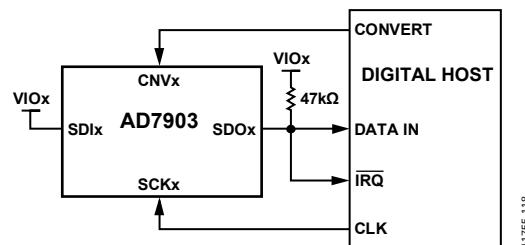
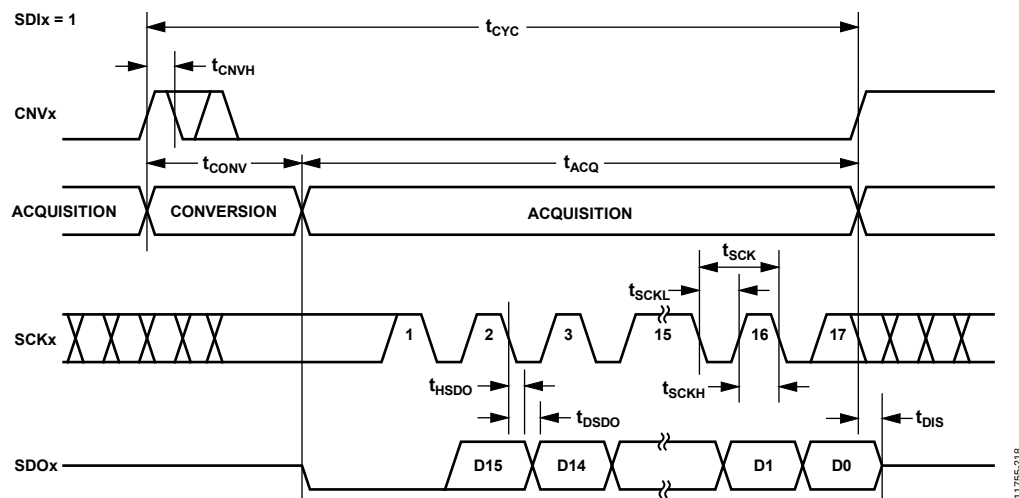
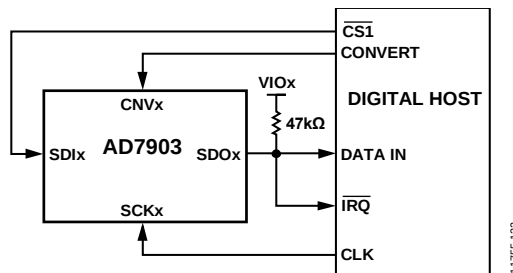
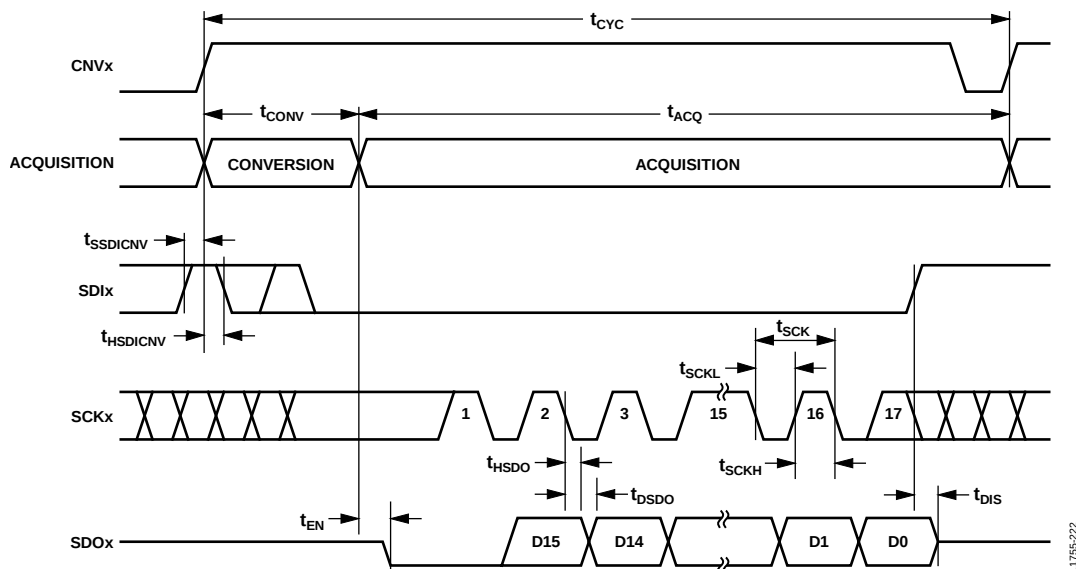

Figure 41. $\overline{CS}$ Mode, 3-Wire Interface with Busy Indicator Connection Diagram ($SDIx$ High)
Figure 42. $\overline{CS}$ Mode, 3-Wire Interface with Busy Indicator Serial Interface Timing ($SDIx$ High)
Figure 45. $\overline{\text{CS}}$ Mode, 4-Wire Interface with Busy Indicator Connection Diagram
Figure 46. $\overline{\text{CS}}$ Mode, 4-Wire Interface with Busy Indicator Serial Interface Timing
- In $\overline{CS}$ mode if CNVx or SDIx is low when the ADC conversion ends (see Figure 42 and Figure 46).
The connection diagram is shown in Figure 41, and the corresponding timing is shown in Figure 42.
The connection diagram is shown in Figure 45, and the corresponding timing is given in Figure 46.